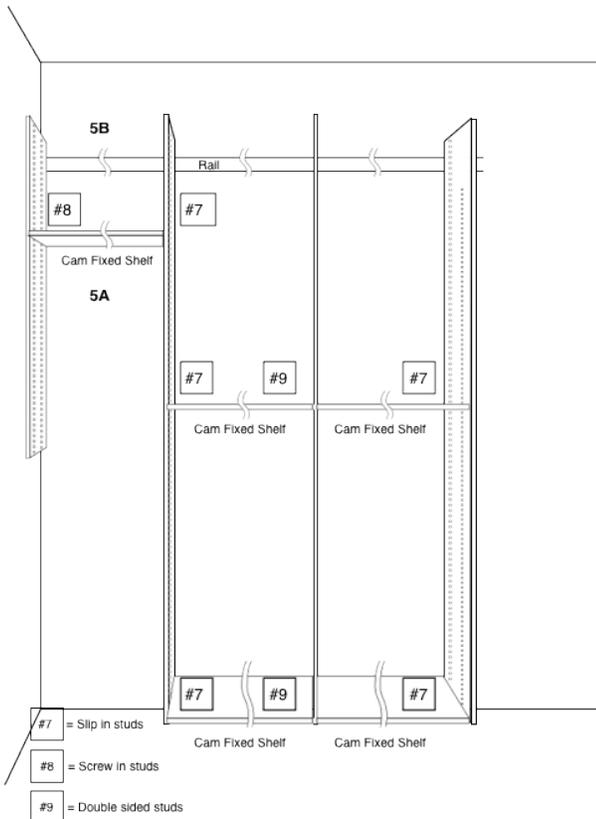

Fig. 5
11. Fasten all slip in (#7), Screw in (#8) or double sided studs (#9) into the system holes for the fixed shelves, until the stop ring is snug with the partition face. (See Fig. 5) (See drawer assembly instructions for locations of fixed shelves above, below and between banks of drawers.)